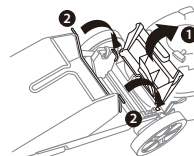

Fig.9
2. Raise the rear discharge cover (1, Fig 9)
3. Attach the grass catcher by inserting its frame hooks onto slots in the rear of mower (2, Fig.9).